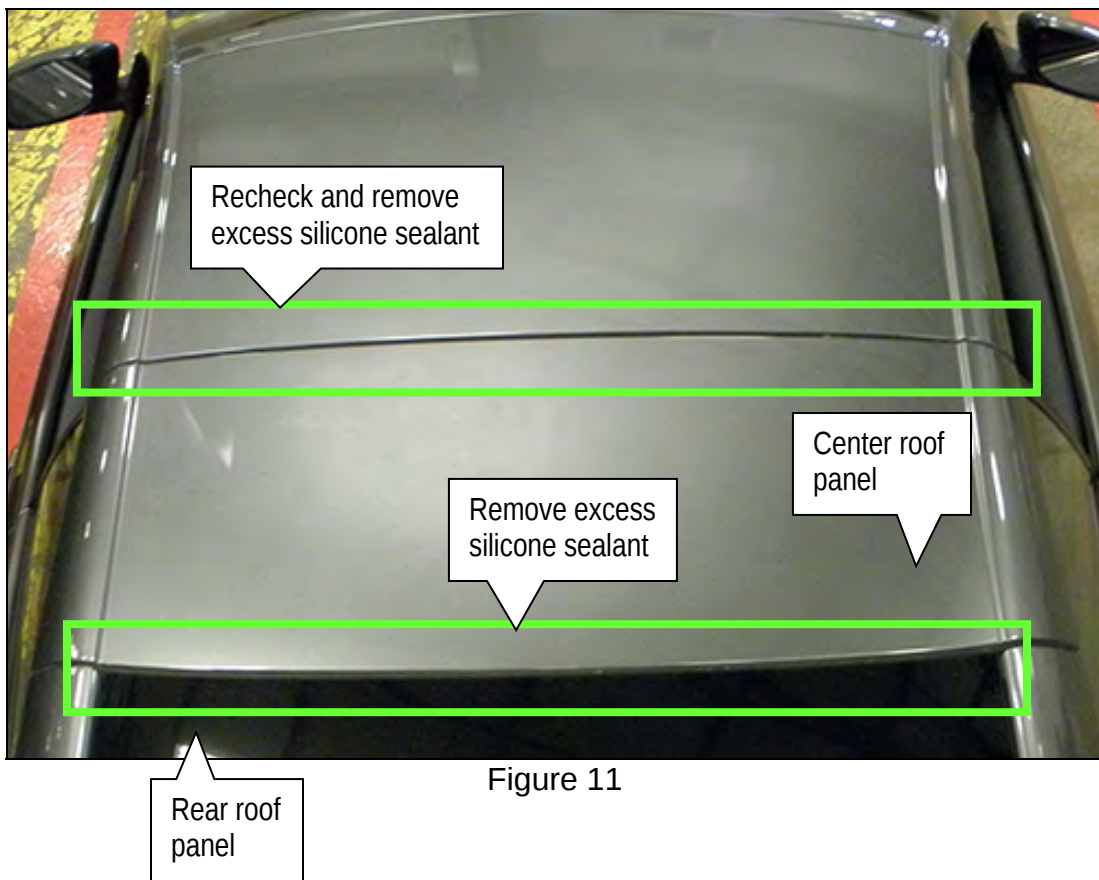

Figure 11
8. Remove excess silicone sealant from the center and rear roof panels (see Figure 11).